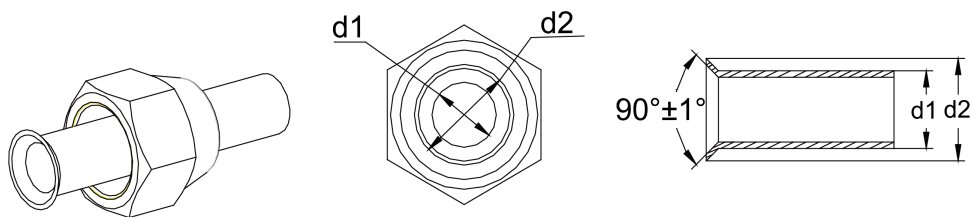

Fig 4.3.2.1
- (1) Use pipe cutter to cut the connection pipe in case it is unshaped.
- (2) Keep the pipe downward in case cutting scraps get into the pipe. Clear away the burrs after cutting.
- (3) Remove the flared nut connecting indoor connection pipe and outdoor unit. Then use flaring tool to fix the flared nut into the pipe (as shown in Fig.4.3.2.1).
- (4) Check if the flared part is flaring evenly and if there is any crack.